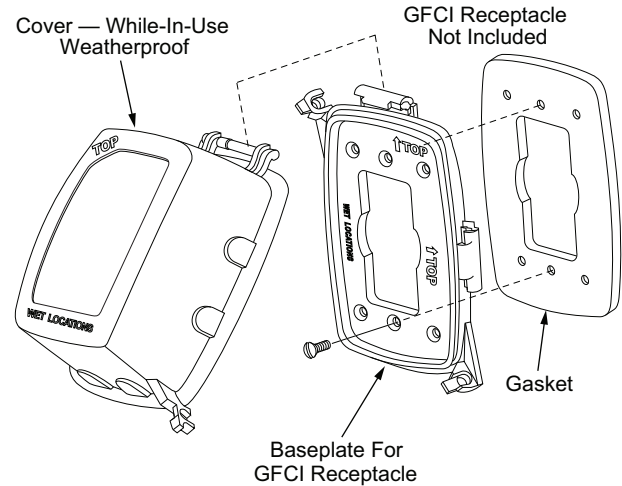

Fig. 28 — Weatherproof Cover Installation
4. Mount the weatherproof cover to the backing plate as shown in Fig. 28.